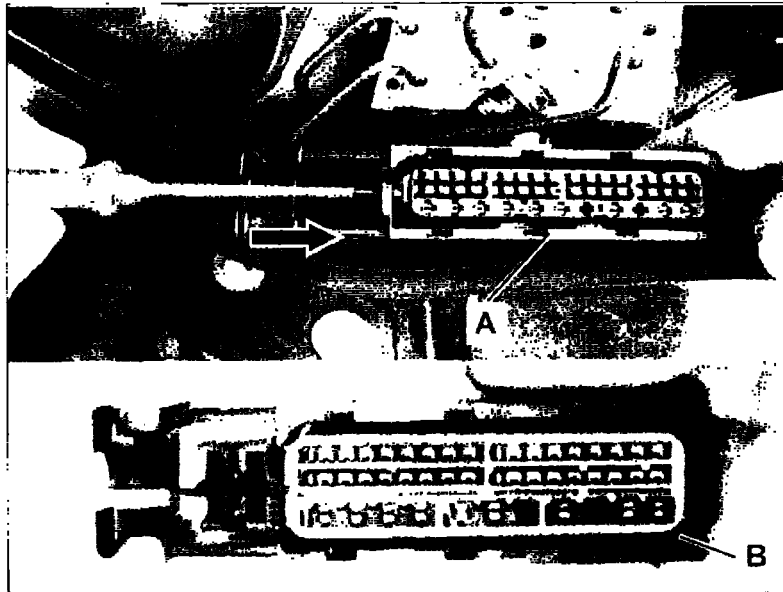

Figure 18
16. Close the (gray) secondary lock of the SBC connector housing (A, B, Figure 18):
- **Connector Type A** (Figure 18):
Slide the gray secondary lock in the direction indicated by the arrow (Figure 18), using a small screw driver until it locks into place.
- **Connector Type B** (Figure 18):